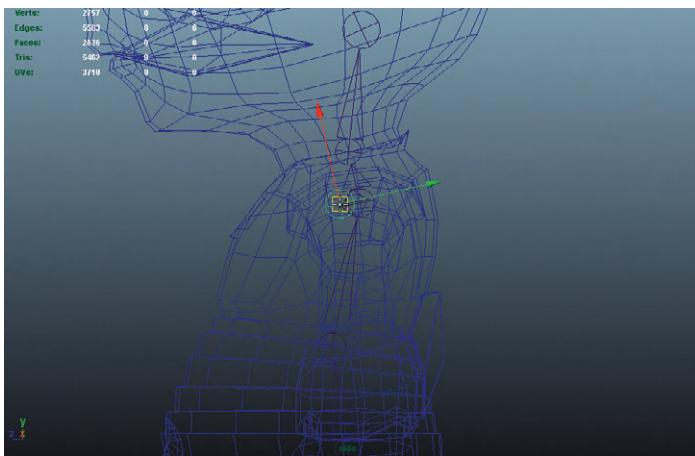

FIG 8.14 Middle-mouse-dragging a joint to position it better while still in the Joint Tool.
Step 20: While still in the Joint Tool, adjust the position of this new L_Clav in the side View Panel. Swap to the side View Panel, and middle-mouse-drag the joint (Fig. 8.14).